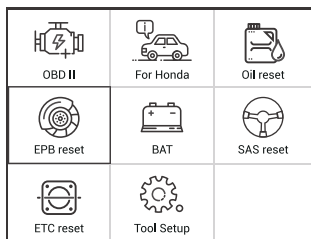

Figure 1
(1) Select the [Brake Pad Replacement] shortcut menu directly from the nine-square grid. (Figure 1)